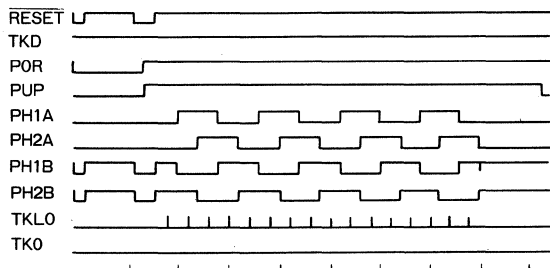

Fig.31
## (12) RESTORE (Table16, Fig.31, 32参照)